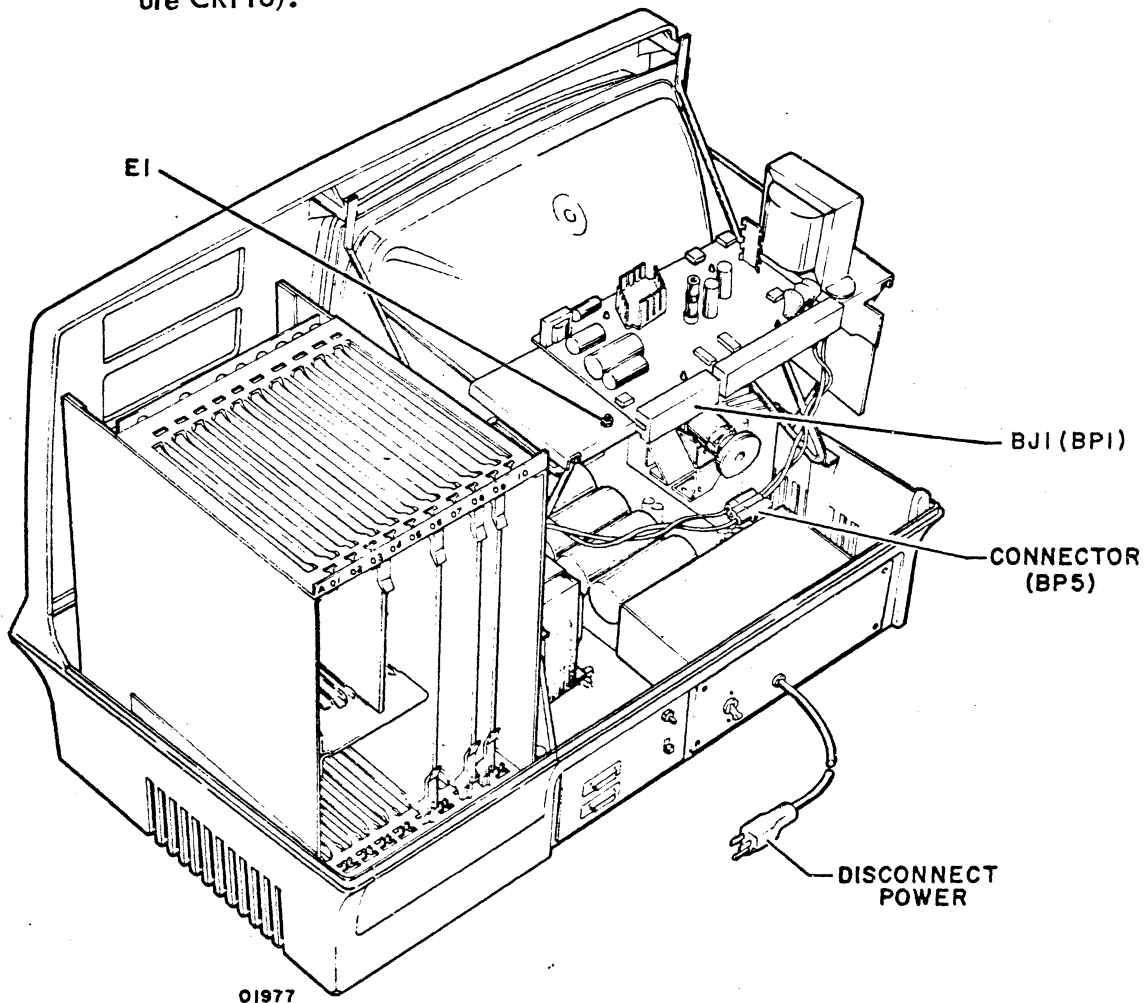

Figure CRT13. Video Module Connector Removal
- 3) Disconnect connector BP5 leading to +15-vdc regulators which are mounted vertically on large heat sink on side of video module (figure CRT13).